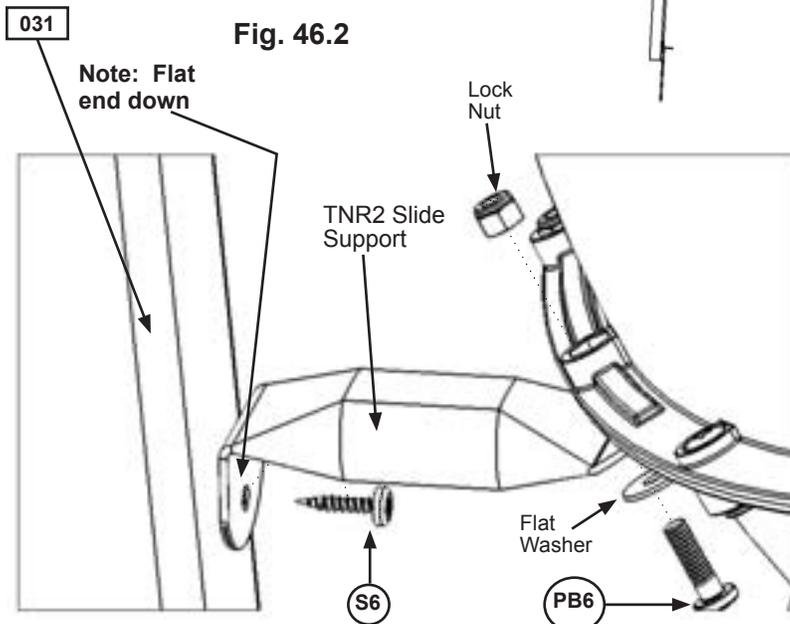

Fig. 46.2
C: Loosley attach TNR2 Slide Support (at the slightly bent end) to the Clamp Ring using 1 (PB6) 1/4 x 1" Pan Bolt (with flat washer and the previously removed lock nut). (fig. 46.2)
D: Rotate TNR2 Slide Support and attach to (031) Post Short using 1 (S6) #12 x 1" Pan Screw as shown in fig. 46.2.